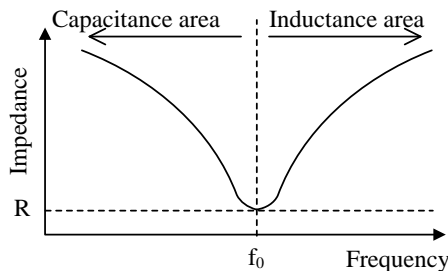

Figure 9-2. Impedance of Resonant Circuit
When the frequency,  $f$ , changes, the impedance of resonant circuit will change as shown in Figure 9-2.
When  $2\pi fL = 1/2\pi fC$ ,  $\dot{Z}$  of Equation (2) becomes the minimum value,  $R$  (see Figure 9-2). In the case,  $\omega$  is calculated by Equation (3).